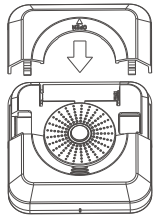

Figure 1
1.3 After the alarm battery is installed, the test is free of any problems and the battery cover is closed. As shown in Figure 1 :